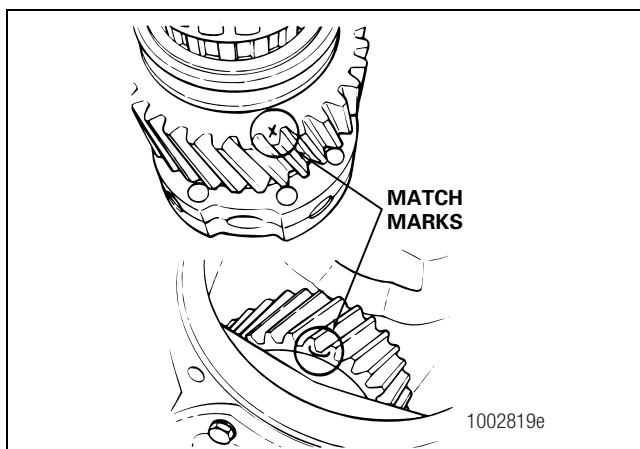

Figure 5.79
4. Verify that the painted alignment marks on the teeth of the helical gears are visible during the installation of the input shaft assembly. Figure 5.79.